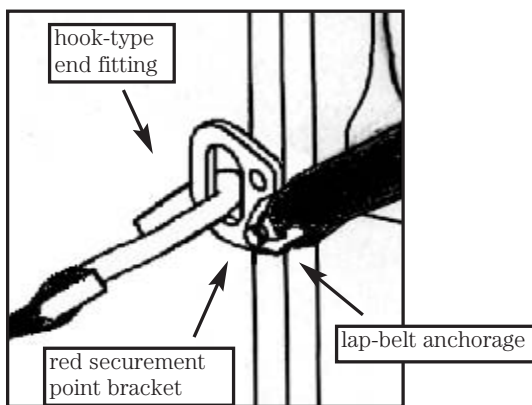
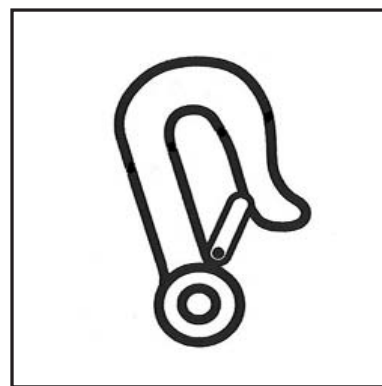
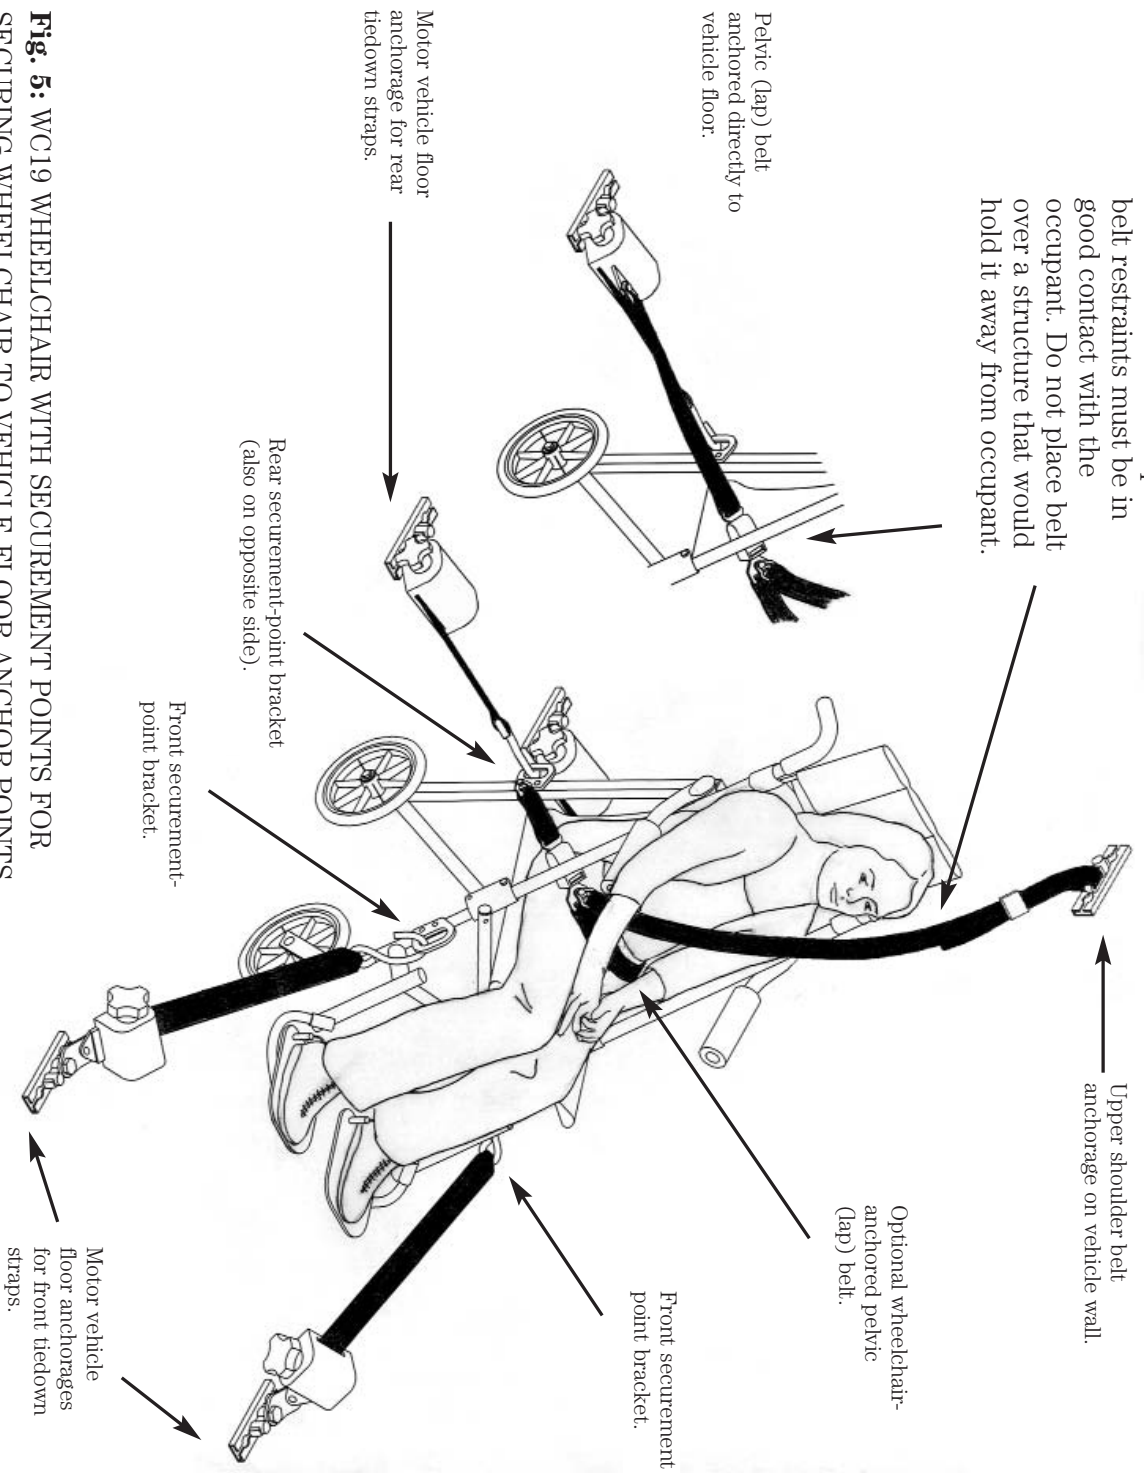

Fig. 3
Fig. 4
Fig. 5: WC19 WHEELCHAIR WITH SECUREMENT POINTS FOR SECURING WHEELCHAIR TO VEHICLE FLOOR ANCHOR POINTS.
- wheelchairs provide four easily accessible hook- or strap-type attachment points for strap-type tiedowns with hook- or strap-type end fittings to facilitate wheelchair securement in motor vehicles (see Fig. 3) and
Attach tiedown straps to securement points (red brackets) located on the wheelchair's legs in accordance with the WTORS manufacturer's instructions. Securement points are identified by the symbol in **Fig. 4**, and their location on the wheelchair illustrated in **Fig. 5**. **You must use all four tiedown straps when securing your Convaid wheelchair in a motor vehicle.**
ILLUSTRATION OF SECUREMENT POINT BRACKET ON WHEELCHAIR FRAME WITH LAP-BELT ANCHORAGE (**FIG. 3**) AND SYMBOL USED TO DESIGNATE WHEELCHAIR SECUREMENT POINTS (**FIG. 4**).